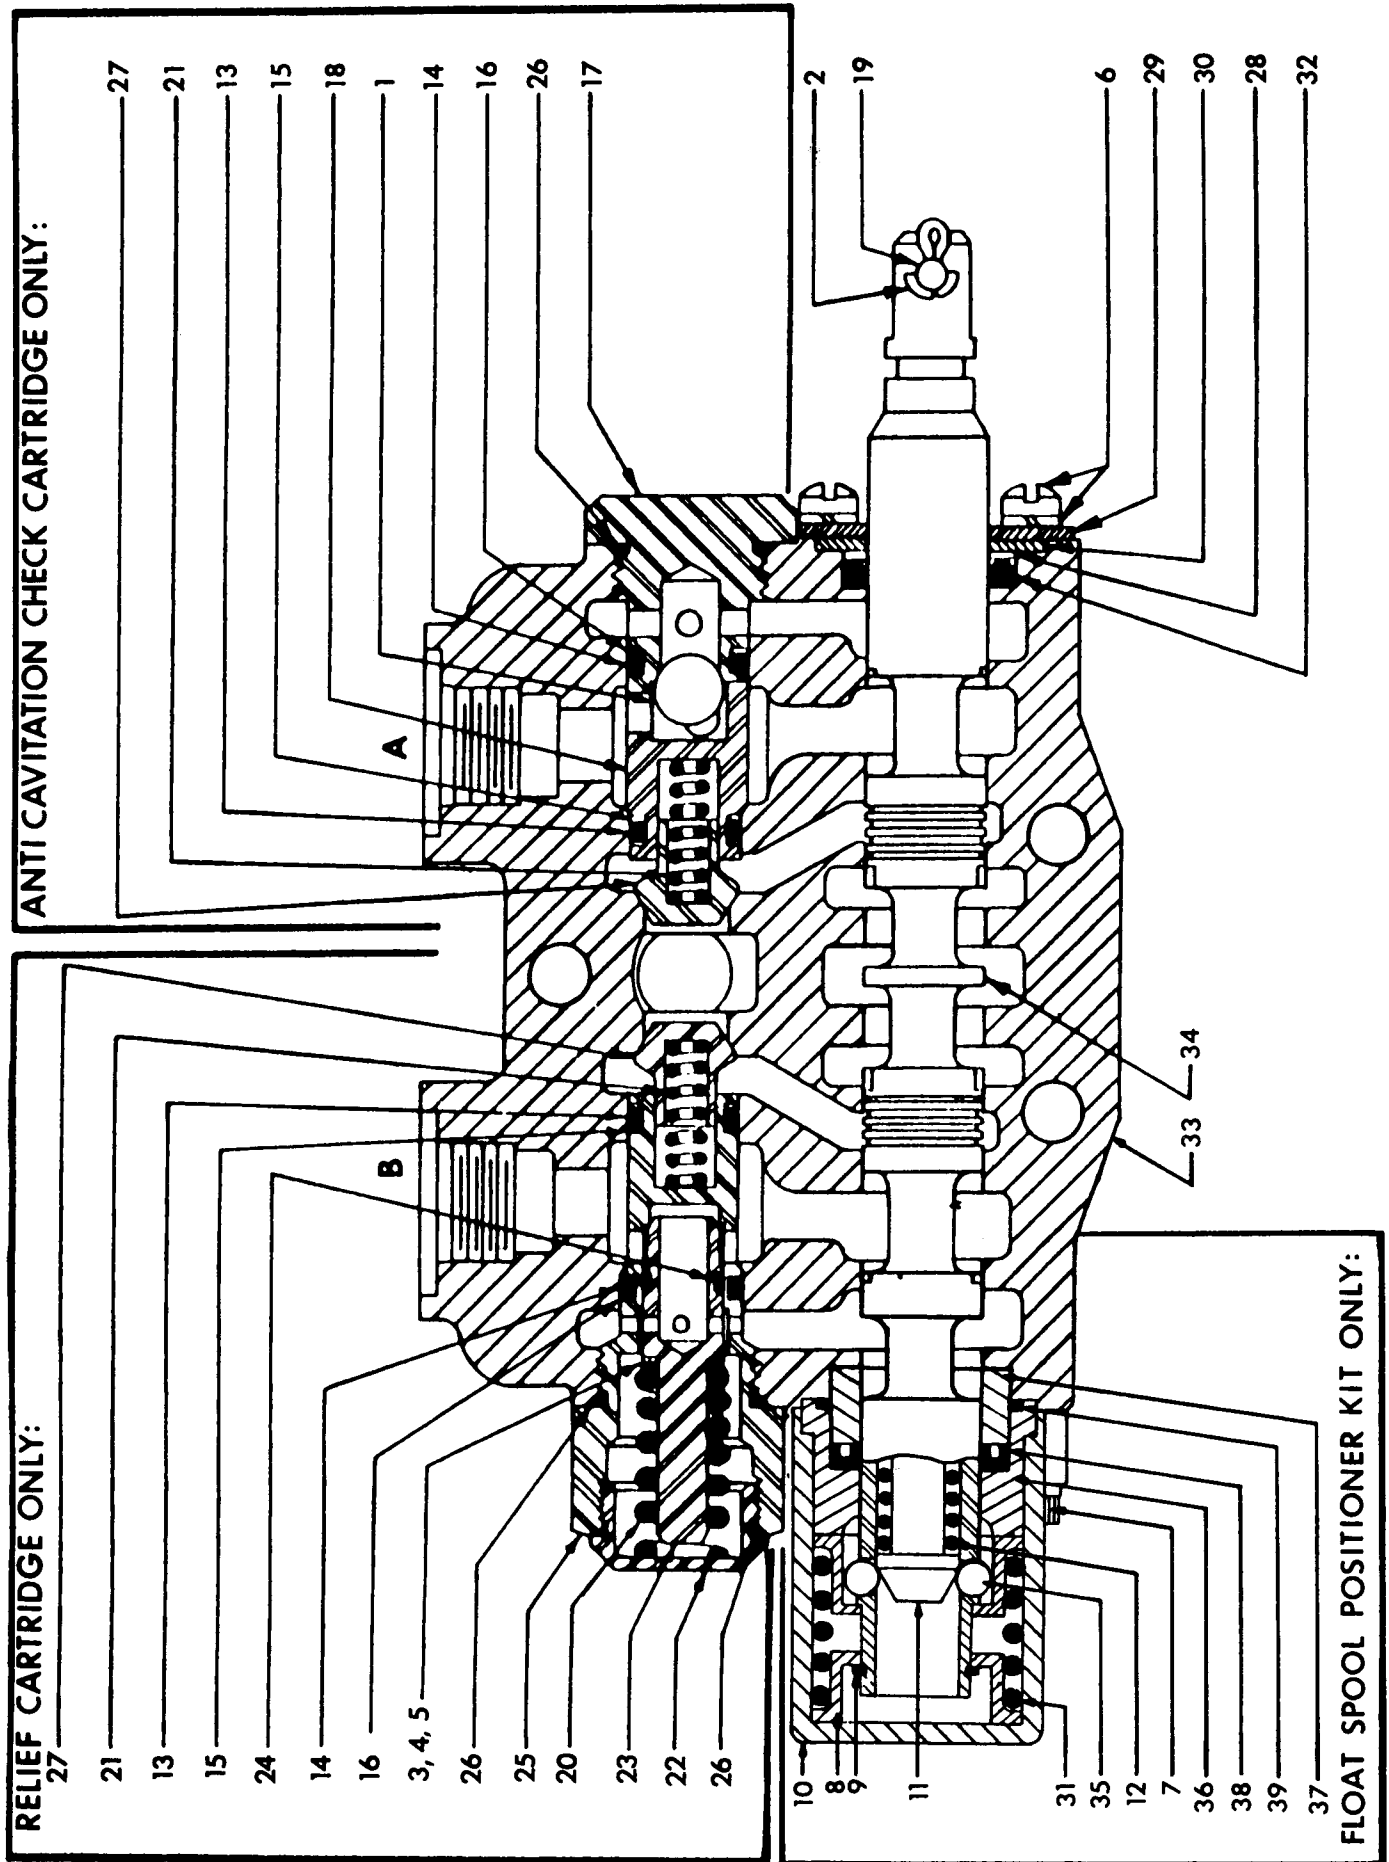

FIG 10
20. Bent spool.....	replace with new spool section. See item 31 at the end and Fig 10, 11, and 12.
23. Spool not moved to full stroke.....	check travel, should be 5/16 inch either way or a total of 5/8 inch. See item 31 at the end.
25. Overload relief valve in the control..... valve stuck open or malfunctioning.	clean relief carefully but do not disturb its pressure setting as it can not be field calibrated, or replace cartridge. See item 31 at the end and Fig 10 and 11.
28. Check poppet in the control valve.....clean check poppet(s) carefully, being sure that it moves freely with good spring action and seats properly or replace. See item 31 at the end and Fig 10, 11, and 12.
29. Damaged or worn spool seals.....replace spool end seals, see item 31 at the end and Fig 10, 11, and 12.
30. Check ball in anti-cavitation check.....clean anti-cavitation valve carefully, being sure that checks move freely and seat properly, or replace cartridge. See item 31 next, and Fig 10 and 11.
PARTS LIST - FIG 10